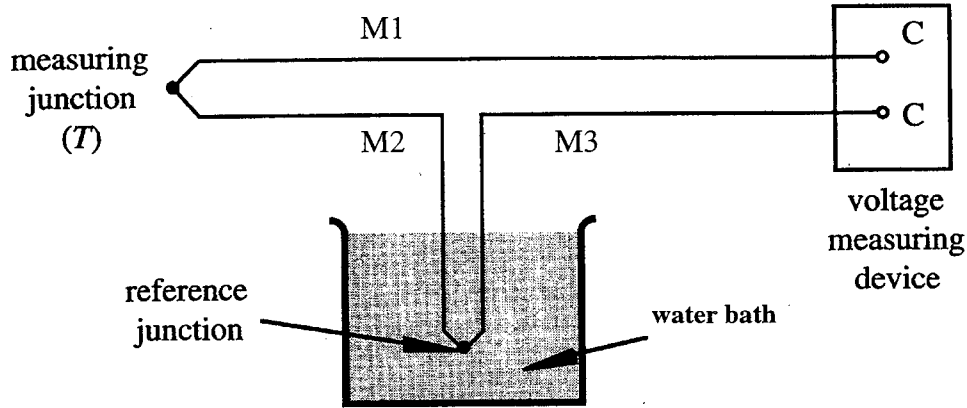

Figure 3
Both Questions 5 and 6 are based on Figure 3.
5. A standard configuration for thermocouple measurement is shown in Figure 3. It consists of wires of two metals, A and B, attached to a voltage-measuring device with terminals made of metal C. The reference junction is used to establish a temperature reference for one of the junctions to ensure accurate temperature measurements at the other junction relative to the reference. If wire M1 is made of metal B, wire M2 is made of metal B, wire M3 is made of metal A, is this a right design, why?